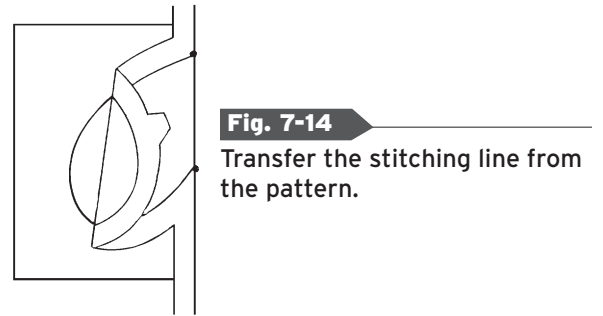

Fig. 7-14
1. Transfer the stitching line from the pattern tissue to a sheet of paper. (Fig. 7-14)